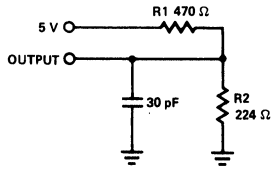

Figure 1a
- Test conditions assume signal transition times of 5 ns or less for the -15 product and 10 ns or less for the -25 and -35 product. Timing reference levels of 1.5V and output loading of the specified I_{OL}/I_{OH} and 30 pF load capacitance as in Figure 1a.